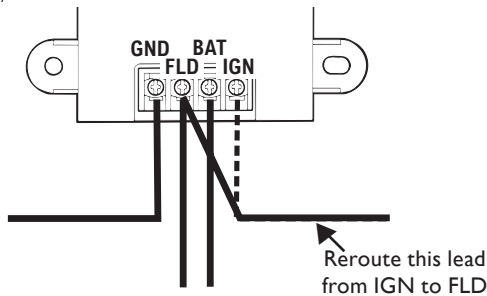

Figure 3 – 50-VR Regulator Modification
- 50-VR regulator – see Figure 3. Disconnect IGN lead at IGN terminal on regulator and reconnect to FLD terminal on regulator. Torque screw to 1.4–1.7 Nm/12–15 lb. in.